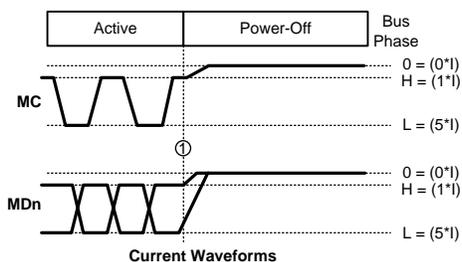

Figure 7. Bus Power Down Timing
(1) Typical values are given for V_{DDIO} = 1.8V and V_{DD} = V_{DDA} = 1.8V and T_A = 25°C.
(2) Applies to WR* and RD* outputs only..
(3) This is a functional parameter and is guaranteed by design or characterization.
(4) Guaranteed functionally by the I_{DDZ} parameter. See also Figure 7.
In the OFF phase, both Master and Slave MPL transmitters are turned off with zero current flowing on the MC and MDn lines. Figure 7 shows the transition of the MPL bus into the OFF phase. If an MPL line is driven to a logical Low (high current) when the OFF phase is entered it may temporarily pass through as a logical High (low current) before reaching the zero line current state.